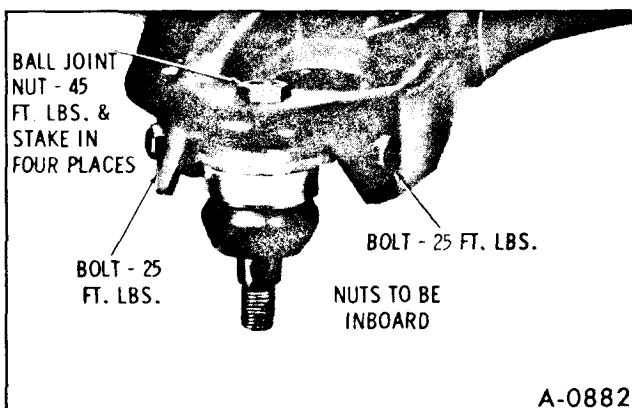

Figure 28-Installing Service Ball Joints
1. Install service ball joint into control arm and torque bolts and nut as shown in Figure 28.